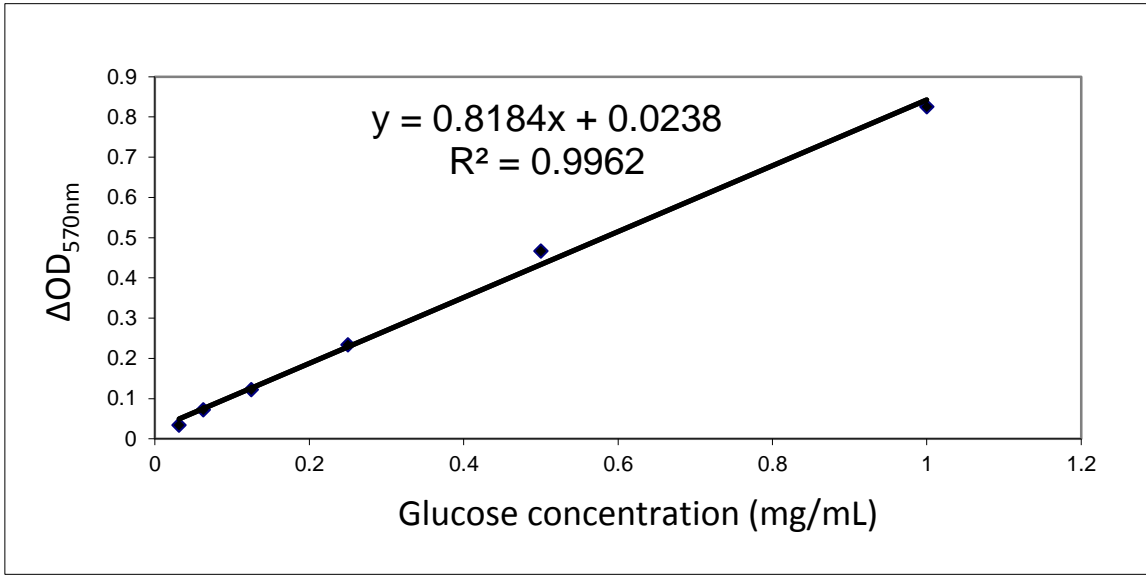

Figure1. A typical glucose standard curve measured by ScienCell™ Glucose Assay kit
Data from Glucose Assay of glucose solutions with concentrations ranging from 0.02 to 1 mg/mL show a linear relationship between OD_{570nm} and glucose concentration (Figure 1).
2. Based on the calibrated $\Delta\text{OD}_{570\text{nm}}$ of the glucose standard, make a standard curve by plotting $\Delta\text{OD}_{570\text{nm}}$ as a function of glucose concentration (See Figure 1 for a typical standard curve). Determine the equation and R^2 value of the trend line.